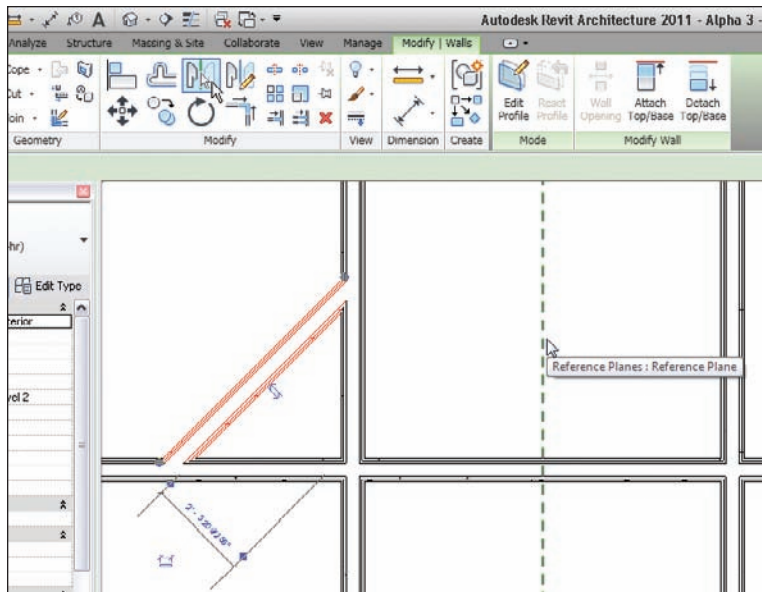

FIGURE 2.43 Using the Mirror command in conjunction with a reference plane is a good example of thinking ahead.
3. Pick the vertical reference plane. And voilà! The wall is mirrored (see Figure 2.43).